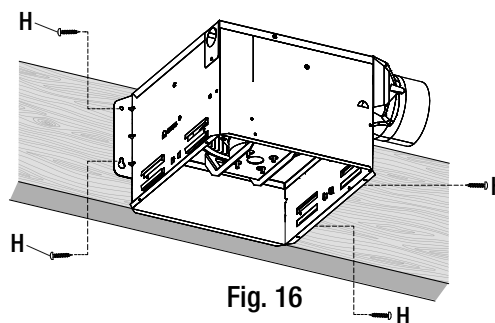

Fig. 16
- Secure the ventilation fan to the ceiling joist in a desired location. This fan offers several convenient ways to secure the housing to your ceiling joists (both conventional and I-joist). Choose the method most appropriate to your ceiling construction as shown in figures 16 and 17.